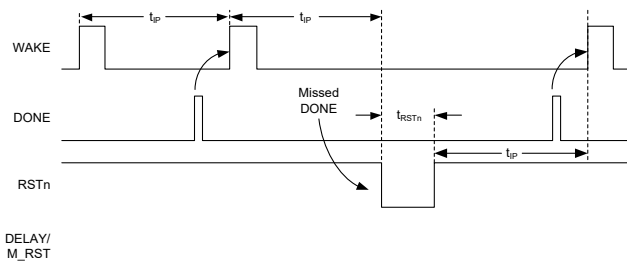
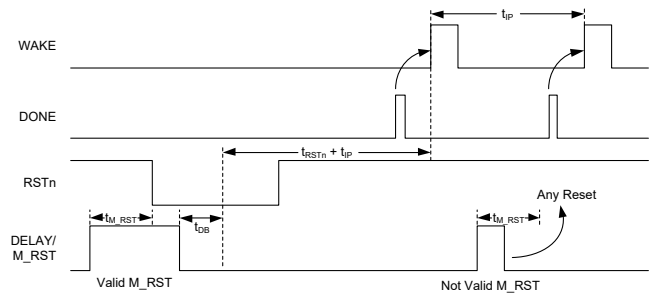

Figure 4. Watchdog
Figure 6. Manual Reset
2. If the DONE is not received at least 20ms before the next WAKE rising edge (see Figure 4).
During normal operating mode, the SGM821 asserts periodic WAKE pulses in response to valid DONE pulses from the μ C. If either a valid manual reset is applied (logic HIGH on DELAY/M_RST pin), or the μ C does not issue a DONE pulse within the required time, the SGM821 asserts the RSTn signal to the μ C and restarts its internal counters. See Figure 4 and Figure 6.